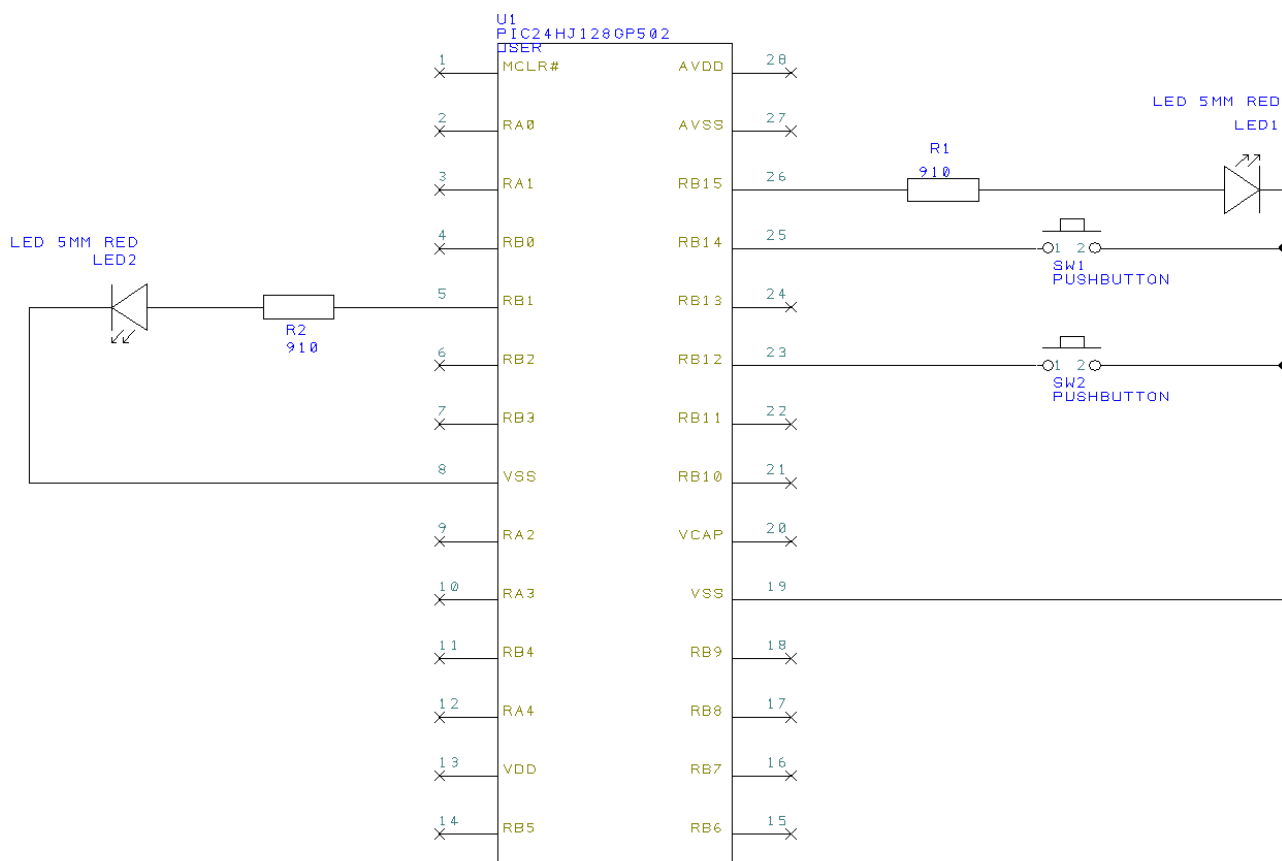

Figure 3. Task 4 schematic
- The constructed circuit should resemble the circuit shown in Figure 3.